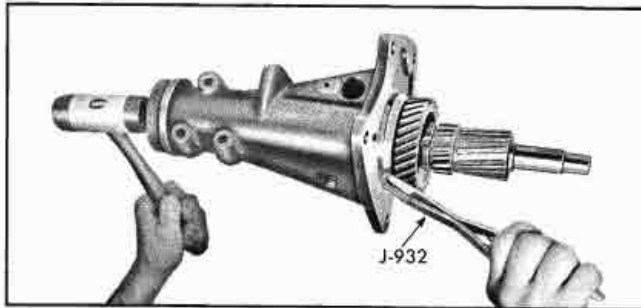

Fig. 7-38 Removal of Mainshaft from Extension Housing
20. Expand rear bearing snap ring, using tool J-932 (Fig. 7-38), and, while snap ring is expanded, tap rear of shaft with soft hammer to bring mainshaft assembly forward and out of extension.